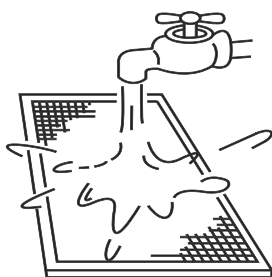

Fig.6-3
- The air-in side should face down when using clean water. (Refer to Fig.6-3)